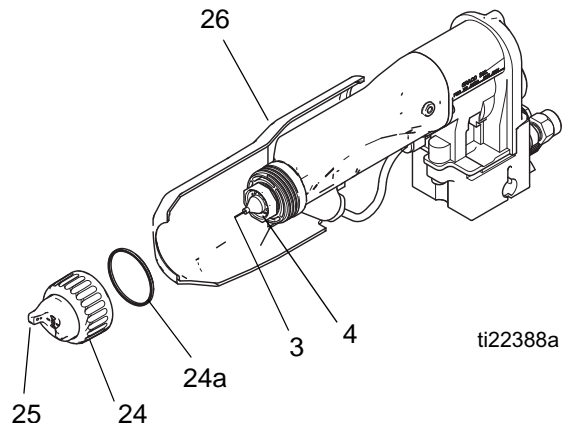

FIG. 19 . Clean Air Cap and Fluid Nozzle
3. Remove the air cap assembly (24, 25) and shroud (26). See FIGURE 19.
4. Wipe the fluid nozzle (4), shroud (26), and exterior of the gun clean with a cloth dampened in solvent. Avoid getting any solvent into the air passages. Whenever possible, point the gun down when cleaning it.
5. If it appears that there is paint inside the fluid nozzle (4) air passages, remove the gun from the line for servicing. See **Air Cap/Nozzle Replacement**, page 42 to remove the fluid nozzle for cleaning or replacement.
6. Clean the air cap (25) with the soft bristle brush and solvent or submerge the air cap in suitable solvent and wipe it clean. Do not use metal tools.
7. Slide the shroud (26) onto the gun.
8. Carefully install the air cap (25). Be sure to insert the electrode (3) through the center hole of the air cap. Rotate the air cap to the desired position.
9. Make sure the u-cup (24a) is in place on the retaining ring (1). The lips must face forward. Tighten the retaining ring until the air cap is held firmly in place; you should not be able to rotate the air cap horns by hand.